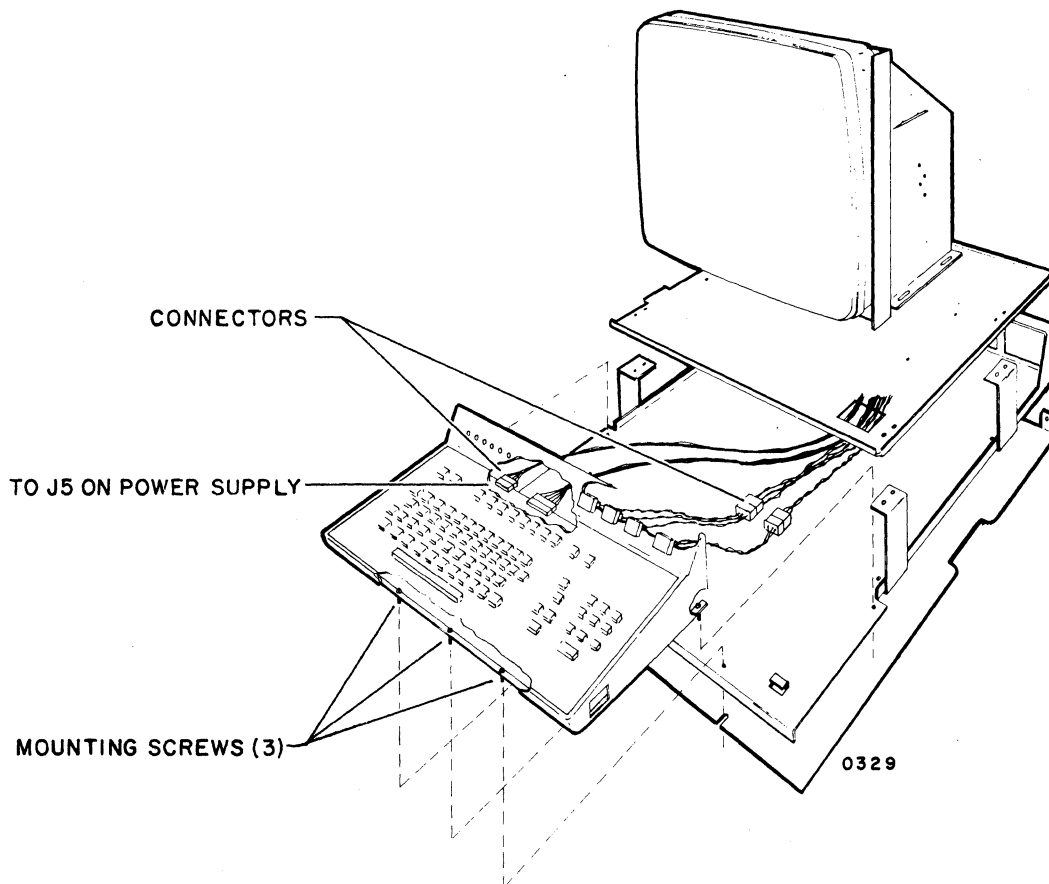

Figure 6-20. Keyboard Module Mounting
- 5) Disconnect cables from keyboard module (see figure 6-20).